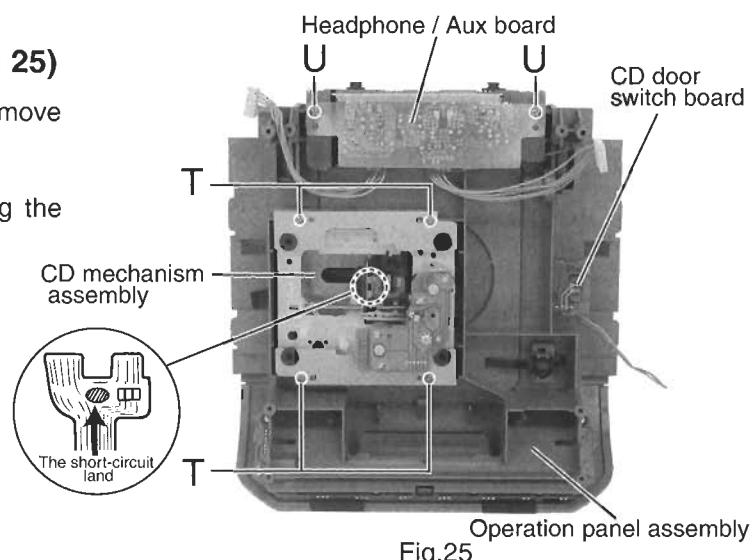

Fig.25
- Fig.25 shows more detail about the short-circuit land.
## ■ Removing the CD mechanism assembly (See Fig.25)
## ■ Removing the headphone / aux board (See Fig.25)